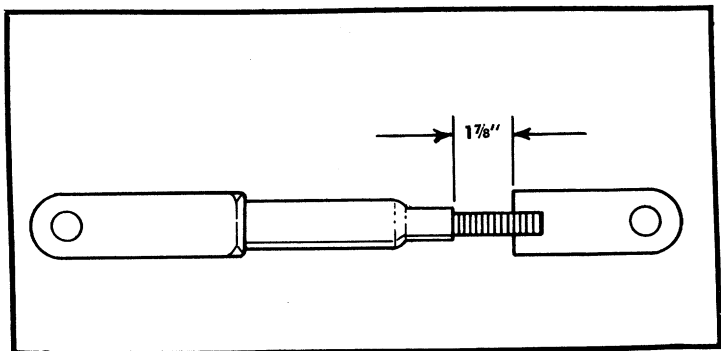

FIGURE 8. CENTER ADJUSTMENT ARM.
Step 11. Assemble the two halves of the center adjustment arm together until there is $\frac{1}{8}$ " of thread showing. See Figure 8.